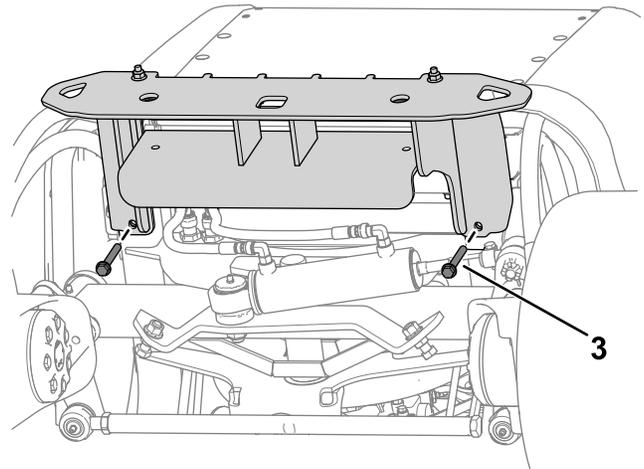

Figure 14
2. Loosely secure the upper area of the bumper to the machine frame using 4 bolts (3/8 x 3-1/4 inches) and 4 nuts (3/8 inch) as shown in Figure 14.
3. Loosely secure the bumper under the machine frame using 2 bolts (3/8 x 2-3/4 inches) and 2 nuts (3/8 inch) as shown in Figure 14.